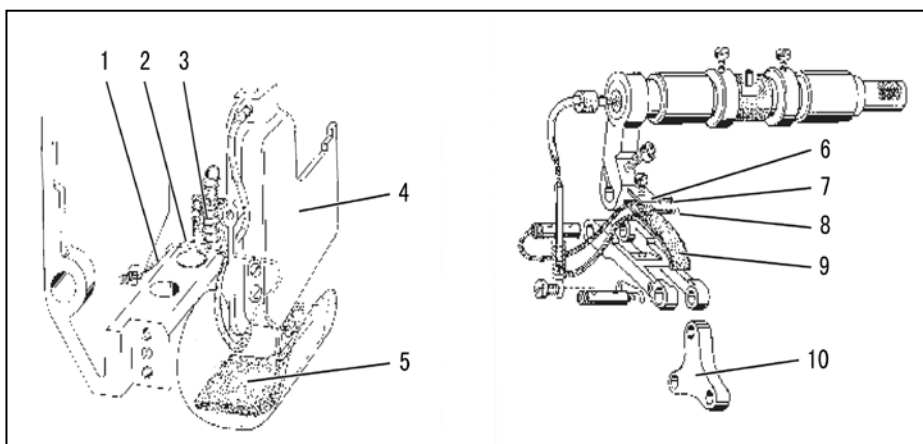

Fig.19
- (2) Lubricating wicks and felt (see the Fig.19)